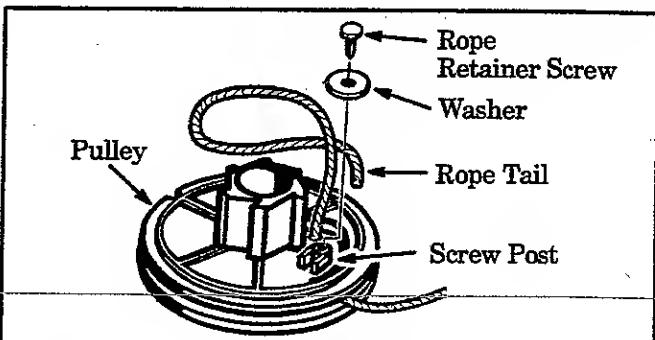
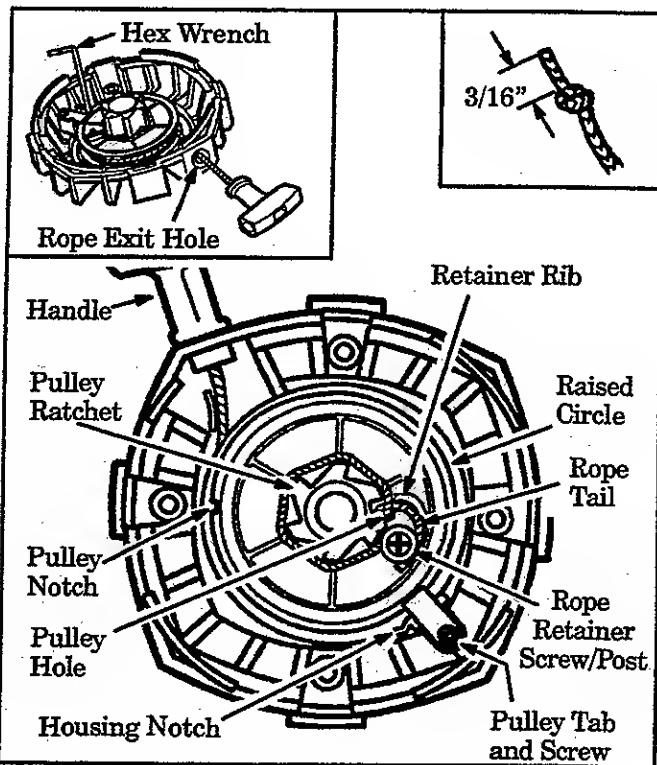

Figure 28
Figure 29
11. Remove the rope retainer screw. Figure 28. Remove any remaining rope from around the pulley ratchet. Figure 29.
12. Hold pulley housing as shown in Figure 29 (inset). Hand turn pulley clockwise as far as it will go.
13. Turn pulley counterclockwise until the pulley notch is aligned with the housing notch next to the pulley tab and screw. Figure 29.
15. Insert the hex wrench into the hole formed by the notches to hold the pulley in position. Figure 29 (inset—upper left).
19. Insert one end of the rope through the handle and secure with a knot. Leave a 3/16" pigtail behind the knot. Figure 29 (inset—upper right).
20. Insert other end of the rope through the rope exit hole into the inside of the housing, into the pulley and up through the pulley hole. Figure 29.
21. Wrap the rope counterclockwise around the pulley ratchet and tuck loose end under the rope at the pulley hole. Figures 28 & 29. Leave a 1 inch tail laying flat on top of the pulley *between* the retainer rib and the retainer post. Figure 29. The rope tail *must not* extend beyond the raised circle on the pulley to prevent interference with the pulley tab. Figure 29.
22. Thread rope retainer screw into the screw post. Figure 29. Do not overtighten screw.